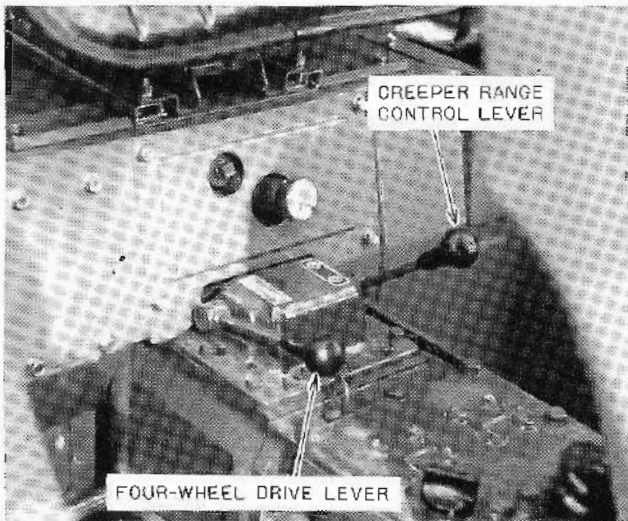

Figure 9 — Creeper Range Control Lever and Four-Wheel Drive Lever
A creeper range with a 7.46 : 1 ratio is available, which provides an additional 12 forward and four reverse speeds or a total of 24 forward and 8 reverse speeds. The control is located on the top left front of the rear-axle center housing, Figure 9.
The shift lever for the four-wheel drive is located on the top right hand front of the rear-axle center housing Figure 9. Full downward movement of the lever disengages the four-wheel drive (OFF). Full upward movement engages the four-wheel drive (ON).
The four-wheel drive is engaged and disengaged through the use of the lever on the top right hand front of the rear-axle center housing, Figure 9.